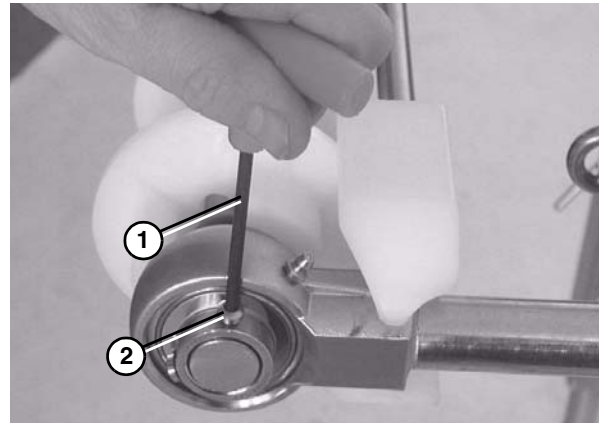

Figure 68
- Use a hex wrench (**Figure 68, item 1**) to loosen the bearing shaft assembly fasteners (**Figure 68, item 2**).